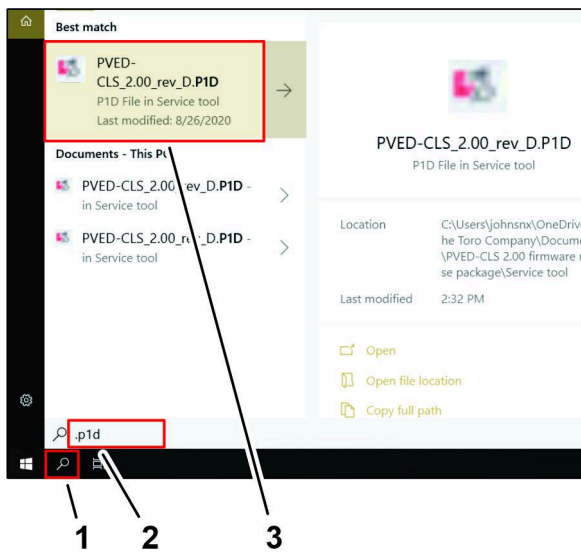

Figure 143
4. In Windows task bar, click the SEARCH icon (Figure 143).
5. In the TYPE HERE TO SEARCH text box, type .P1D and press the enter key (Figure 143).
6. Click PVED-CLS_2.00_rev_D.P1D icon (Figure 143).